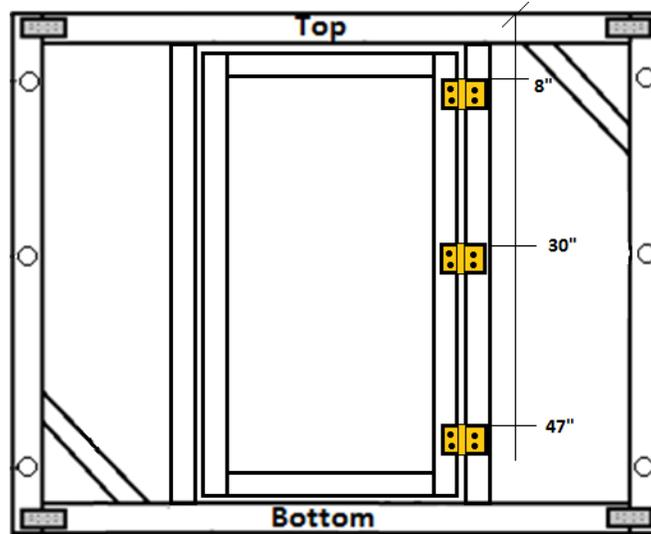
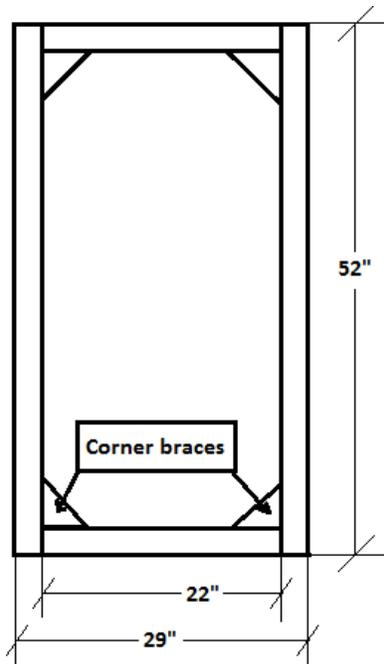

Figure 2-10
Figure 2-11
- Place the door inside the frame and attach using 3 hinges at 8", 30", and 47" as measured from the top (Figure 2-10). Add corner braces to the door for additional support (Figure 2-11).